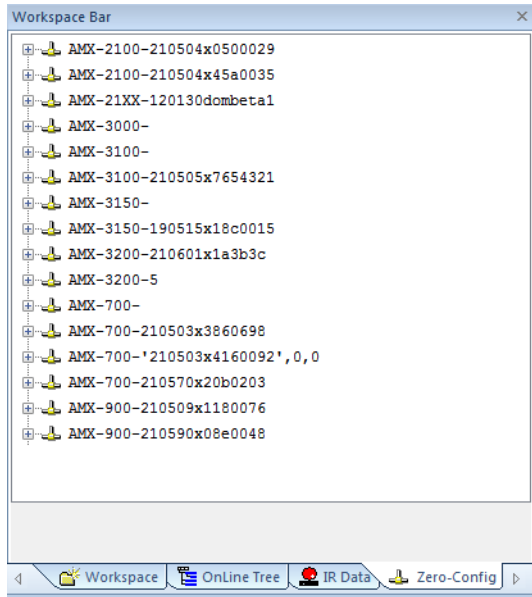

FIG. 2 Workspace bar (Zero-Config tab selected)
3. In the Workspace area, right-click and select **Refresh Zero Config List**. The controller appears in the list of devices as shown in FIG. 2: